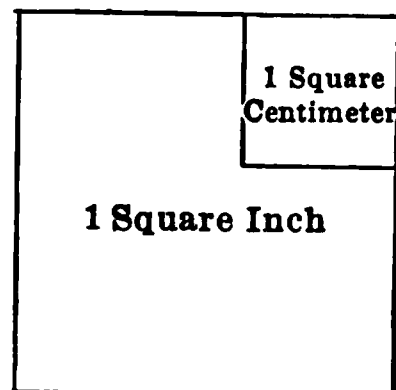

FIG. 3.—Relative sizes of the square inch and the square centimeter.
9. Units of area. The unit of area which is most extensively used is the area of a square of which the side is of unit length. Thus the area of a city house lot is reckoned in square feet, where the unit is a square one foot on each side. In the laboratory, area is often measured in square centimeters (cm^2), the unit being a square one centimeter on each side. It is evident from figure 3 that one square inch is equal to about 6 square centimeters. More accurately, it is 2.54×2.54 , or 6.45 square centimeters.